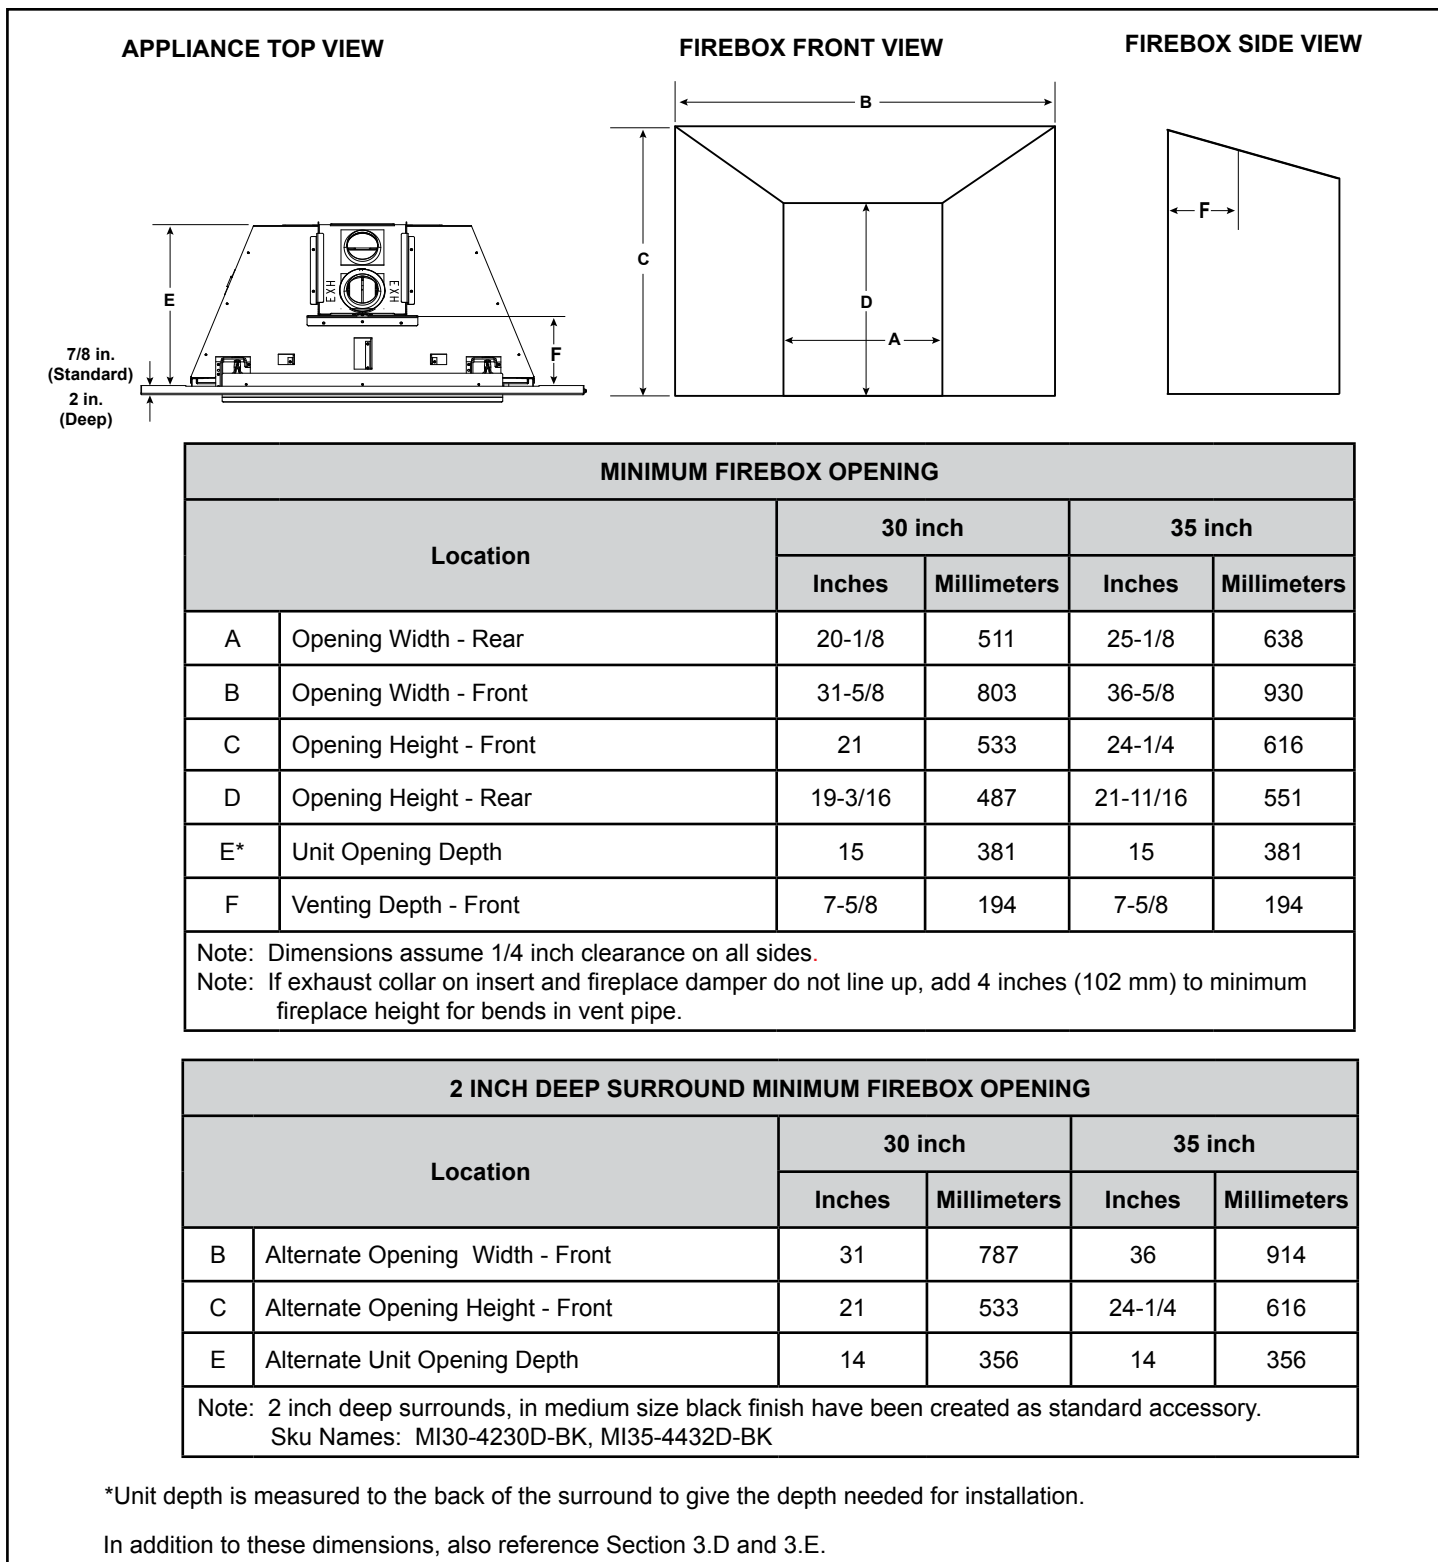

Figure 3.9 Firebox Opening - Standard Surround - 3/4 in.
***Note:** Location G is the appliance depth measurement, for installation depth reference Location E on Figure 3.9.
Minimum fireplace opening requirements for a standard 3/4 inch deep surround are shown in Figure 3.9. For smaller openings, a custom surround is available.